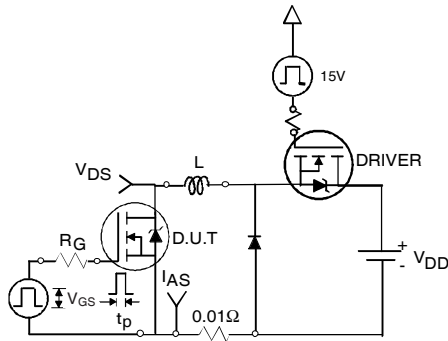

Fig 12a. Unclamped Inductive Test Circuit
- ③ $I_{SD} \leq 90A$, $di/dt \leq 340A/\mu s$, $V_{DD} \leq V_{(BR)DSS}$, $T_J \leq 175^\circ\text{C}$.
- ④ Pulse width $\leq 1.0\text{ms}$; duty cycle $\leq 2\%$.
- ⑤ $C_{oss \text{ eff.}}$ is a fixed capacitance that gives the same charging time as C_{oss} while V_{DS} is rising from 0 to 80% V_{DSS} .
- ⑥ Limited by T_{Jmax} ; see Fig.12a, 12b, 15, 16 for typical repetitive avalanche performance.
- ⑦ This value determined from sample failure population. 100% tested to this value in production.
- ⑧ R_θ is measured at T_J of approximately 90°C .
3. Equation below based on circuit and waveforms shown in Figures 12a, 12b.